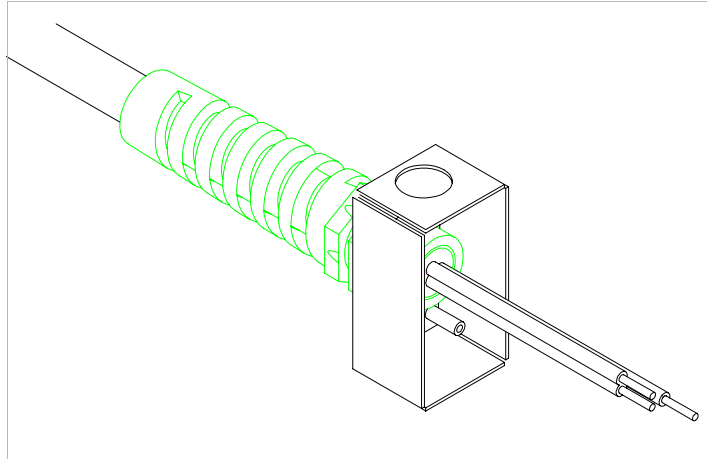

Figure 2.2 Stripped Wire Installed in Strain Relief
2. Strip the outside insulation on the AC cable approximately 2 in. (5 cm). Strip 0.25 in. (6 mm) at the end of each of the wires. See Figure 2.2, on page 34 for details.